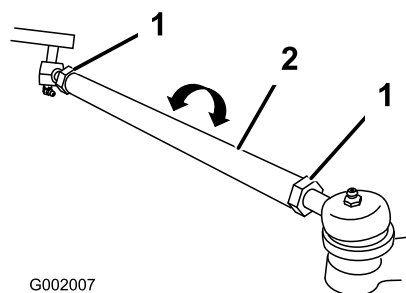

Figure 58
5. If the measurement does not fall within the specified range, loosen the jam nuts at both ends of the tie rods (Figure 58).